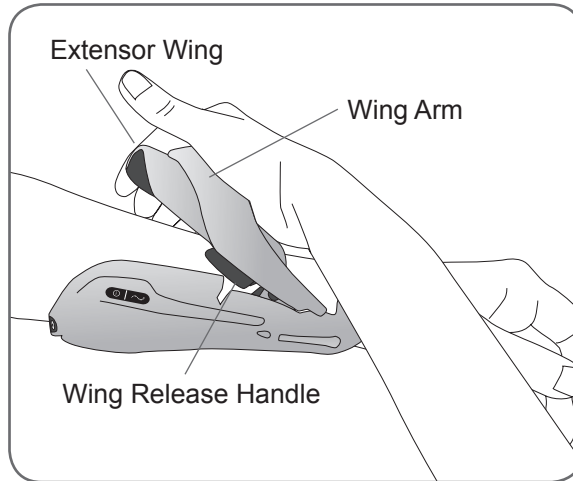

Figure 8-12: Closing the wing.
5. Pull the extensor wing out while pushing down on the wing arm. See Figure 8-12. Push down until no more clicking can be heard.